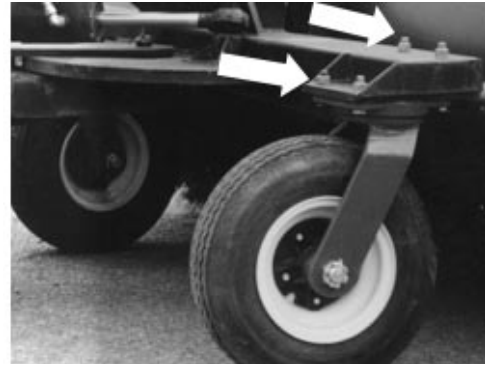

Figure 2
- a. Fasten casters to the swing plate with 2, 1/2-13 x 4 in. cap screws, flat washers, lock washers and nuts in the front holes and 2, 1/2-13 x 2 in. cap screws, flat washers, lock washers and nuts in rear holes (figure 2).